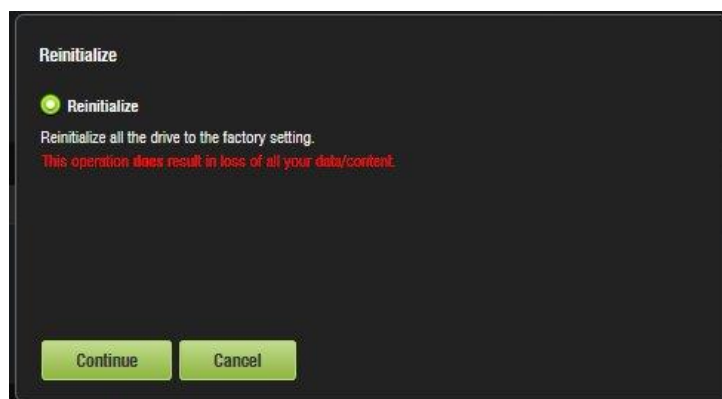

Figure 336: Confirmation Window
- The user will receive a warning and will be asked to confirm the procedure (Figure 336).